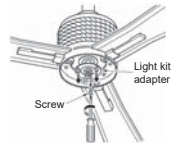

Fig.21
Step 1: Remove 1 of 3 screws on light kit adapter (Do not discard) and loosen the other 2 screws.(Fig. 21)